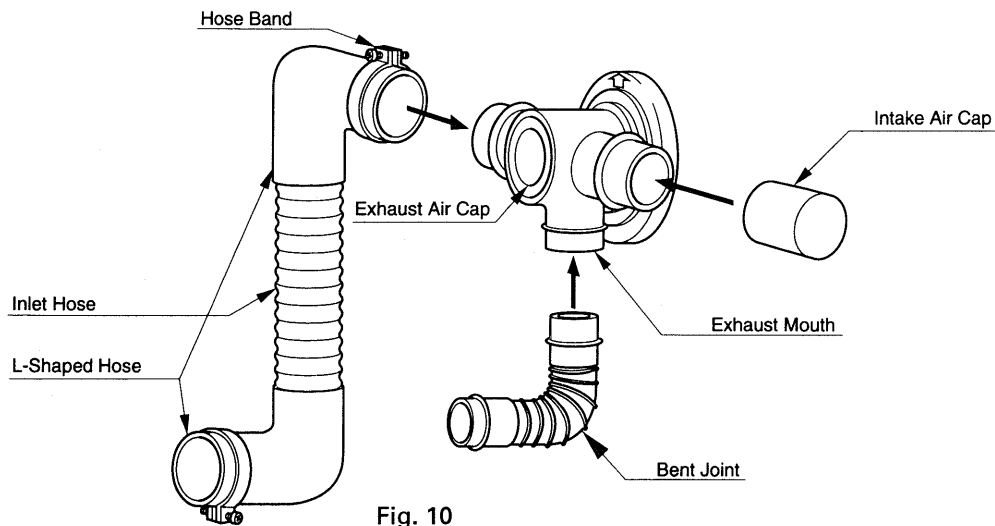

Fig. 10
6. Insert the bent joint to the exhaust mouth of the flue pipe. Cut the inlet hose for desired length if necessary. Attach the L-shaped hose to each end of the inlet hose and attach the L-shaped hose to the intake mouth of the flue pipe. Secure the L-shaped hose to the intake mouth with the hose band. Plug the unused exhaust and intake mouth with the caps provided with the heater. Make sure the caps fit tightly onto the mouth (See Fig. 10).